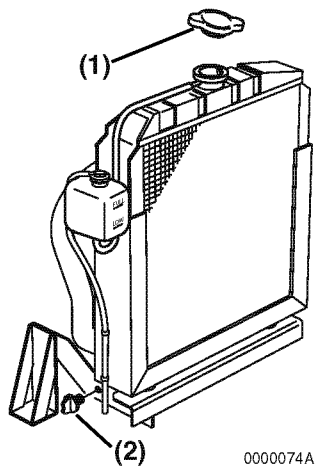

Figure 5-16
2. Remove the radiator cap (**Figure 5-16, (1)**).
3. Remove the drain plug or open the drain cock (**Figure 5-16, (2)**) at the lower position of the radiator and drain the engine coolant.